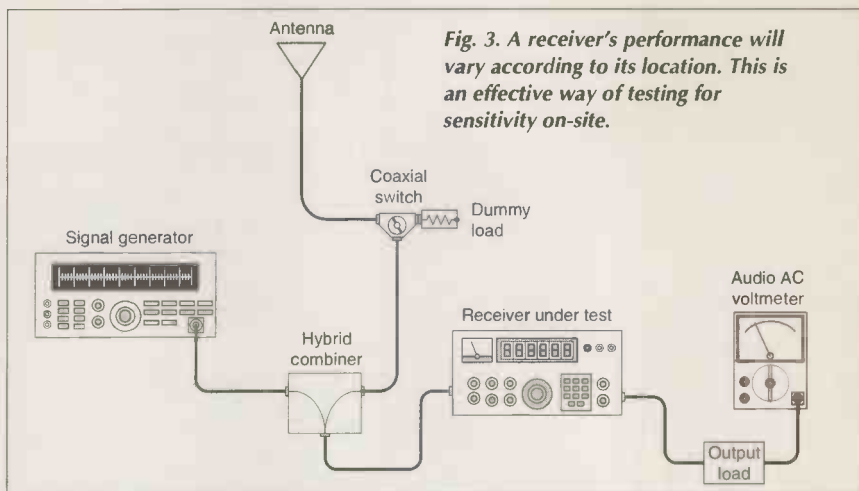

Fig. 3. A receiver's performance will vary according to its location. This is an effective way of testing for sensitivity on-site.
**On-site effective sensitivity test.** This test is only done on-site where the receiver is installed. It is intended to get some idea of how well the receiver performs in its actual installed environment. Figure 3 shows the test set-up.